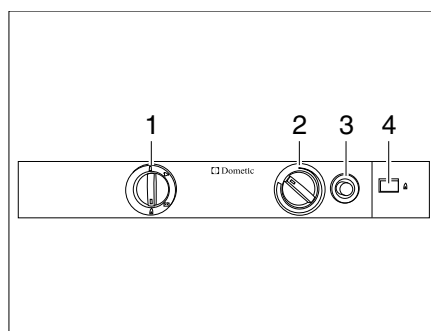

Fig. 332 Operating controls for the refrigerator (Dometic 8 series)
- Set the energy selector switch (Fig. 332,1) to "🔥".
- Press the control knob (Fig. 332,2), turn it to the highest level and hold it down. Wait until gas gets into the burner.
- Press the gas ignition button (Fig. 332,3) and keep it pressed. Ignition will take place automatically.
- Keep gas ignition button (Fig. 332,3) pressed down until the flame indicator (Fig. 332,4) becomes green and then release it.
- Keep the control knob (Fig. 332,2) pressed for another 10 to 15 seconds, then release it.
- Set the energy selector switch (Fig. 332,1) to "⚡".
- Use the control knob (Fig. 332,2) to adjust the refrigerating temperature.